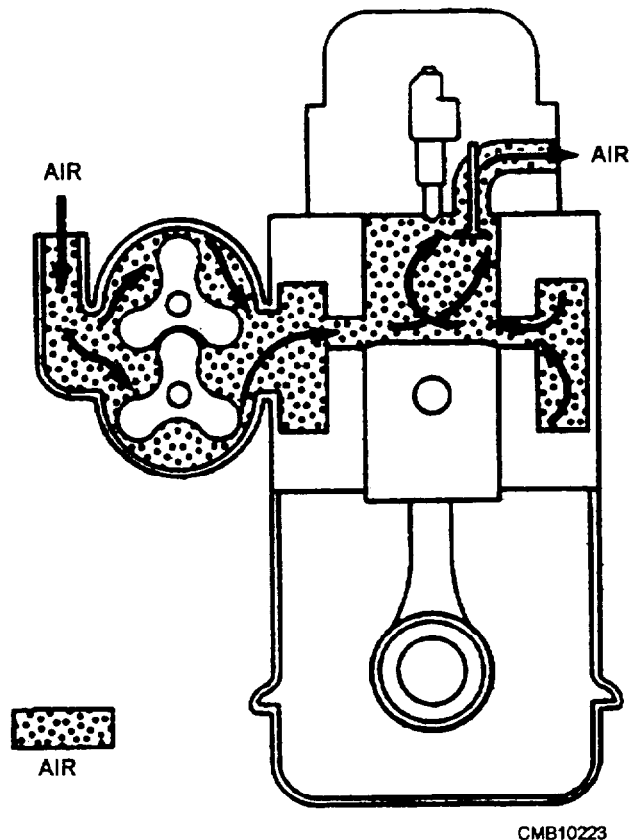

Figure 5-40.—Rootes supercharger.
2. **Rotor (Rootes) supercharger** (fig. 5-40). The Rootes supercharger is of the positive displacement type and consists of two rotors inside a housing. As the engine drives the rotors, air is trapped between them and the housing. Air is then carried to the outlet where it is discharged. The rotors and the housing in this type of supercharger must maintain tight clearances and therefore are sensitive to dirt.